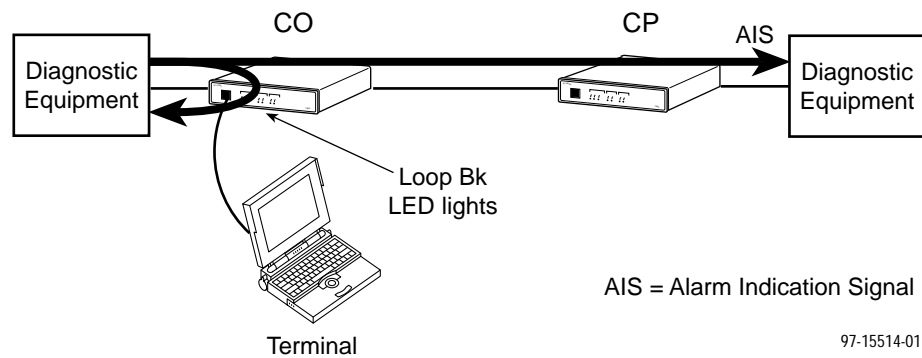

Figure 7-1. Local Loopback, Initiated at the CO Unit
Loopback is a diagnostic function that enables a technician to isolate equipment on the HDSL circuit to determine where on the circuit trouble may be occurring. Loopback takes the system off-line. Data received from the DTE (T1 or V.35 application equipment) is looped back, as depicted in Figures 7-1 through 7-4.
- The data flow is indicated by the bold thick arrows in Figures 7-1 and 7-2.